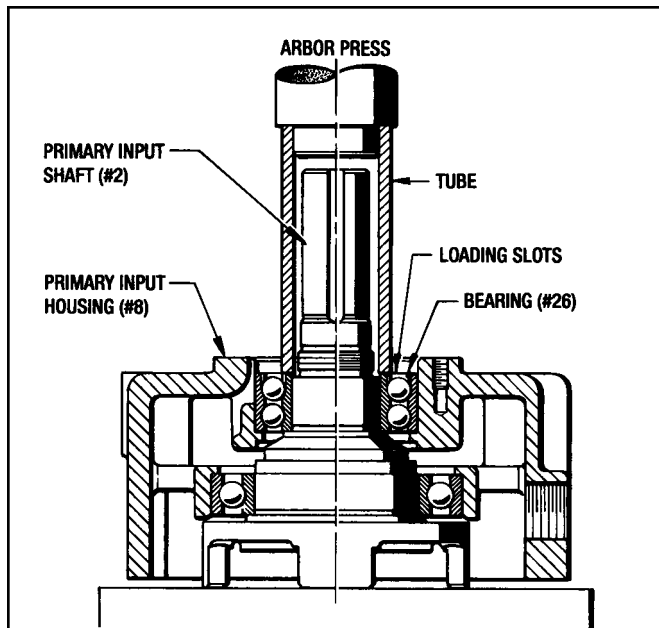

Figure 9.9 - Pressing Bearing (#26) On Primary Input Shaft
3. Set the Primary Input Shaft and Housing into an Arbor Press *(See Figure 9.9)*. Using an appropriate sized tube, press Bearing (#26) onto the Input Shaft until it bottoms out. Make sure the Loading Slots are towards the input end.
4. Set the Primary Input Shaft and Housing into an arbor press. Using an appropriate sized tube, press Bearing (#26) onto the Input Shaft until it bottoms out. Make sure the Loading Slots are towards the input end. (See Figure 9.9)